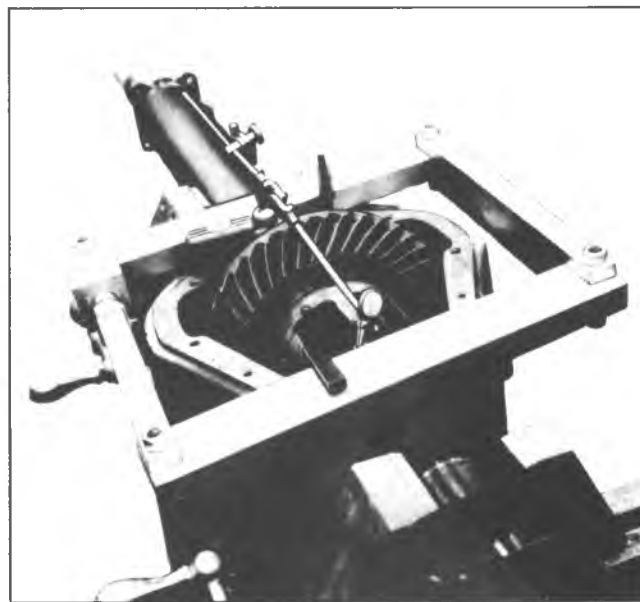

Fig. 4C-1—Spreading Case With J-24385
Removal (Fig. 4C-1)
The axle shaft inner oil seals are located just outboard of the differential bearings, item 28 Fig. 4C-2. They can be replaced only after the differential is removed from the carrier, using tool J-28648.
2. Remove bearing cones from case, using puller J-22888 and correct plug (fig. 4C-4) and remove shims from case. Identify all parts so they may be reassembled in their original location.
2. Install Tool J-8614-2, and 3 into holding bar as shown in Figure 4C-5 and remove flange from drive pinion. Remove drive pinion from carrier.